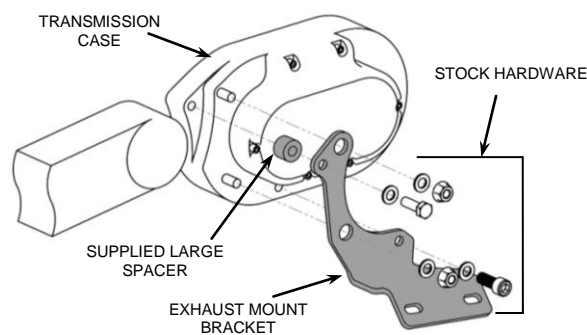

FIGURE 1
5. Install the supplied exhaust mount bracket using the stock bolts. See **FIGURE 1**. Tighten the bolts to factory specifications. If applicable, be sure to insert the large spacer between the exhaust mount and the transmission case as shown in **FIGURE 1**.